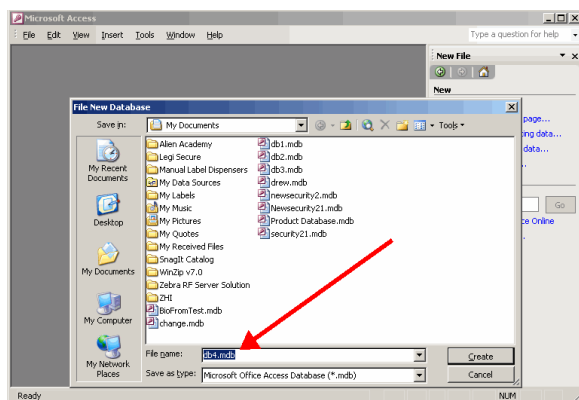

Figure 34a
39. Change the default database name to a meaningful name in the File New Database dialog box, (Figure 34a, b) and click Create.